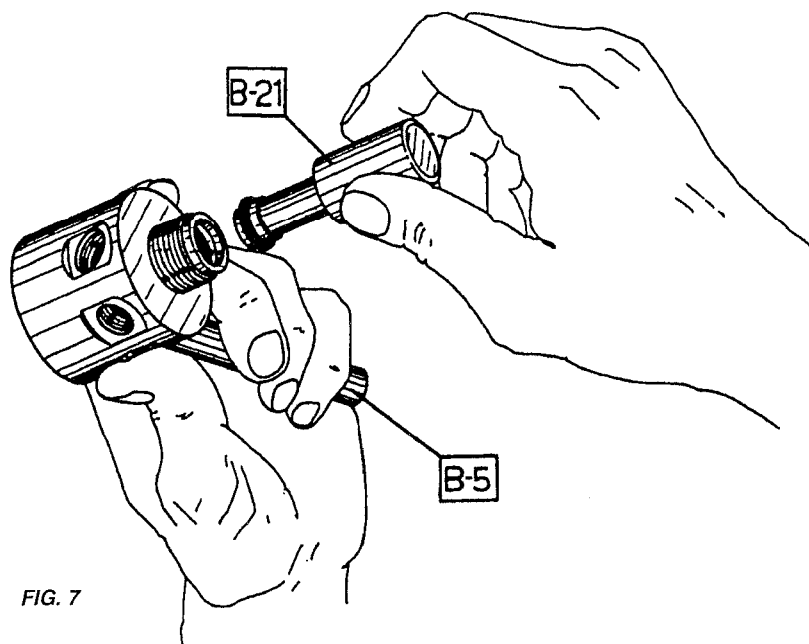

FIG. 7
2. Reassemble the O-Ring (74) onto the valve seat (75).
4. Push the valve seat into position in the First stage body pressing lightly. (Fig. 7).